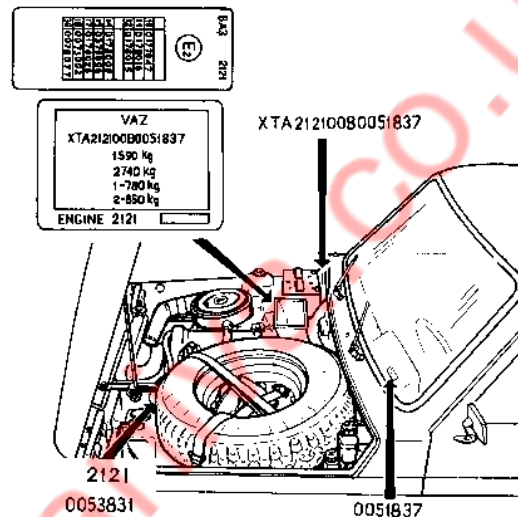

Fig. 1. Identification Data
**Identification number of the car** is indented on a non-detachable plate secured on the instrument panel (Fig. 1) at the left hand side. The plate is installed to special order.